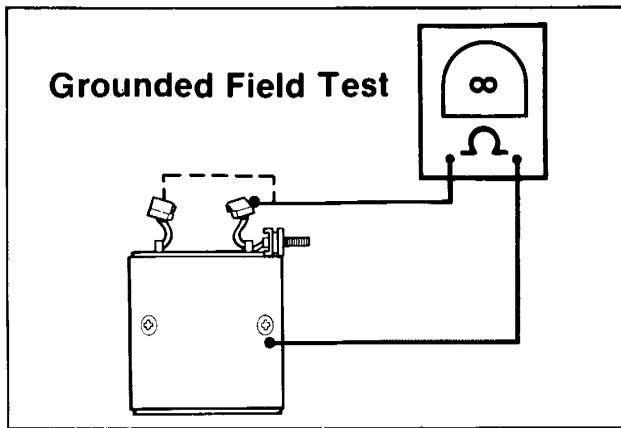

Figure 5-4. Grounded Field Test
1. See Figure 5-4. Check for a grounded field coil with an ohmmeter set at the (RX1) resistance times one scale. Touch one probe to the field frame and the other probe to each of the field brushes in turn. There should be no continuity, infinite ohms. If there is any ohm reading at either brush, the field coil is grounded to the frame and the field frame assembly must be replaced.